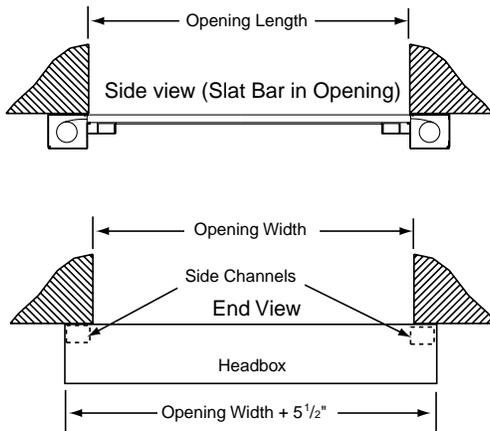

Figure 6
- ③ For Outside Mount—Measure opening and unit and compare the two (see Fig. 6). The Skylight FlexShade should be about 5 1/2" larger than the opening to be covered; the length should be about 8" longer than opening (11"-12" longer if slat bar and headboxes are all to be outside opening).